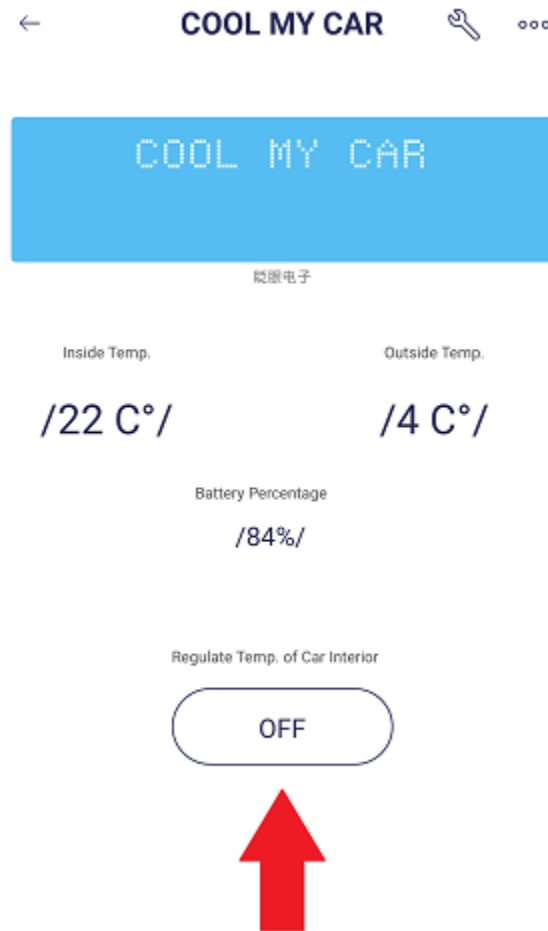

Figure 8. Location of the ON/OFF button for the temperature regulation system.
- Figure 8. Location of the ON/OFF button for the temperature regulation system